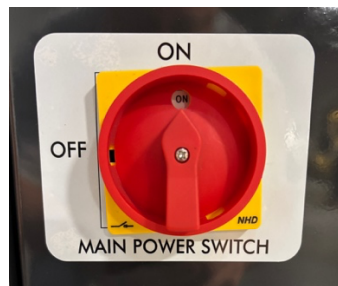

Figure 10-2: Main Power Switch
2. Unlock and turn the Main Power Switch to the ON position (see Figure 10-2).